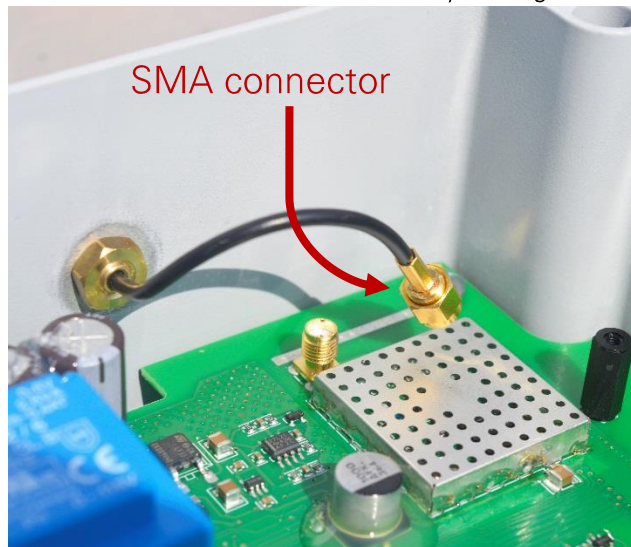

Figure 6: inside view, the SMA connector of the on board antenna is loosen
6. Loosen the SMA connector of the on board antenna (by turning counterclockwise). (Figure 6).